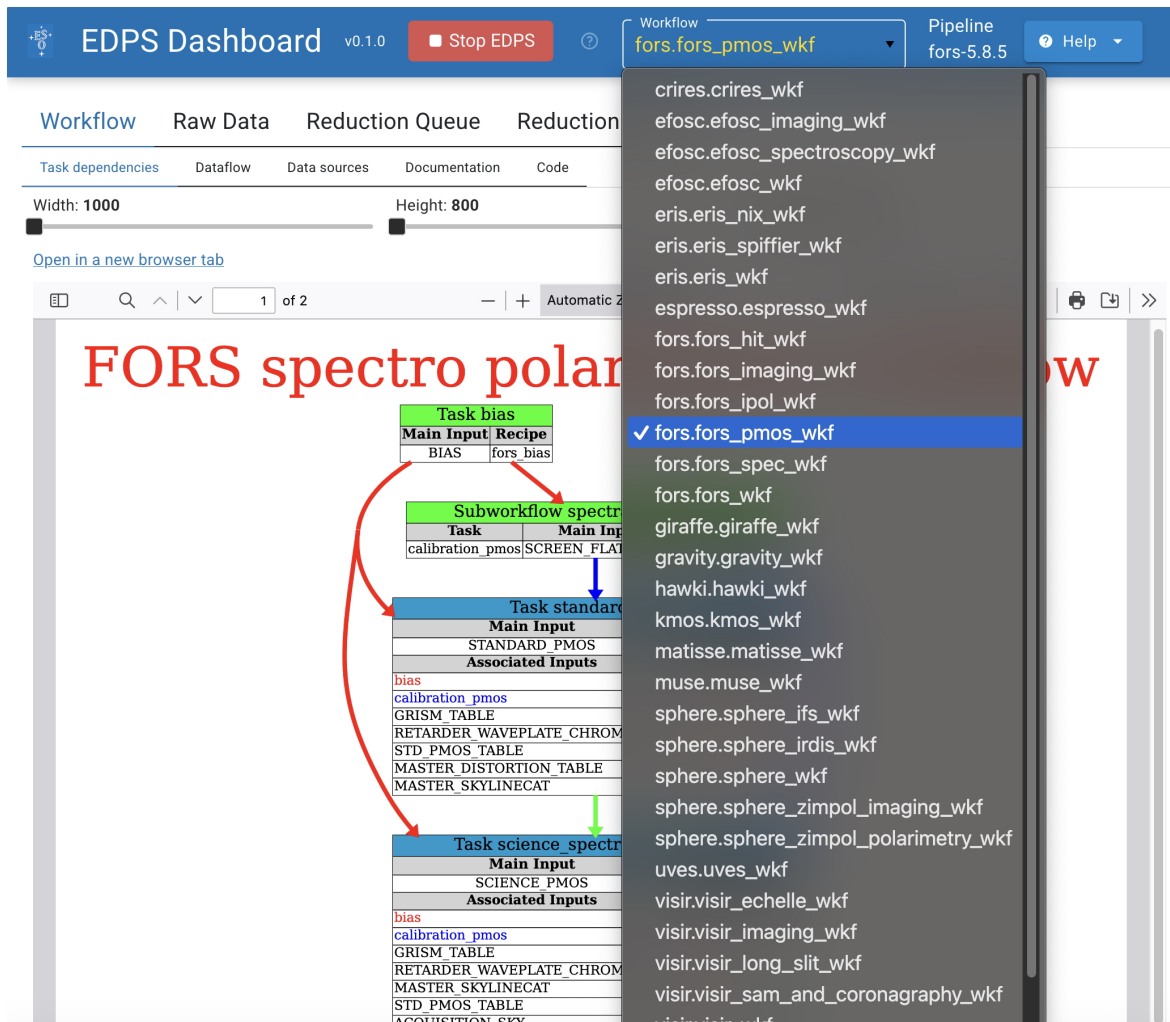

Figure 4: The edps-gui with the FORS SPECTROPOLARIMETRY workflow loaded.
5. Choose the `fors.fors_pmos_wkf` workflow from the list in the ‘Workflow’ field. The workflows offered in this selector depend on the installed pipelines. The graphic workflow representation will appear as in Figure 4.